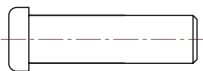

Fig. 10.13 The spindle drawing saved as Fig13.dwg
2. As a separate drawing construct Fig. 10.13. Save it as a wblock with the name of **Fig13.dwg** and with a base insertion point at the crossing of its centre line with the left-hand end of its spindle.